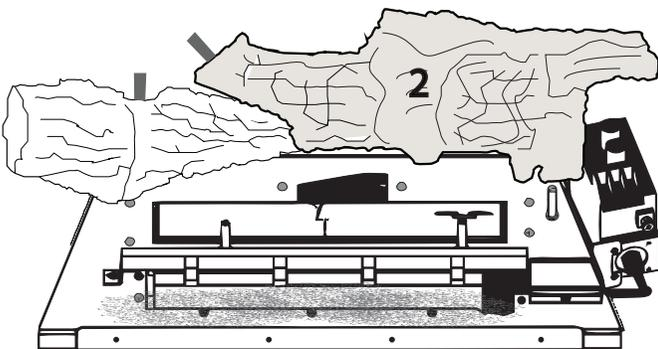

Figure 5.21 - Log #2 Placement
3. Place Log #2 on the right-hand side of the burner assembly by positioning the pin locator hole onto the log pin on the right-hand side of the burner; then rotate the part to the back. When in place, make sure the back of Log #2 is up against the bend on the back of the burner assembly. See Figure 5.21.